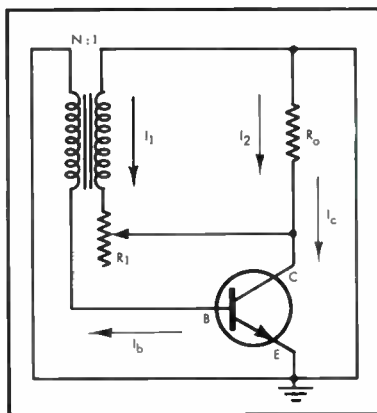

Fig. 1. Simplified schematic of basic arrangement for testing transistors.
Basically, the circuit¹ is that of an oscillator. The point at which oscillation starts is determined by the β of the transistor and by a potentiometer R_1 in Fig. 1. The frequency of oscillation which lies in the audio range, depends mostly on the transformer characteristics.
To understand the operation of the circuit, let us examine the conditions which prevail when the circuit just begins to oscillate: (see Fig. 1)
Let us investigate the circuit further to see what other useful relationships we can determine, and how we can make a linear, direct-reading, dial scale. Suppose we make the resistor R_1 a 10-turn potentiometer, and we use a 15-turn dial such as a Beckman type "RB" (or other similar device) to read out our β values directly. This dial has 100 major divisions per turn, and a total of 15 turns or 1500 divisions. If we determine the minimum β value we wish to read, we automatically set the maximum value of β we can read on one range. This is true since our resistor R_1 in Fig. 1 goes from a minimum value of zero ohms to its maximum value when rotated the full 10-turns, and β varies with R_1 according to Eq. (1).